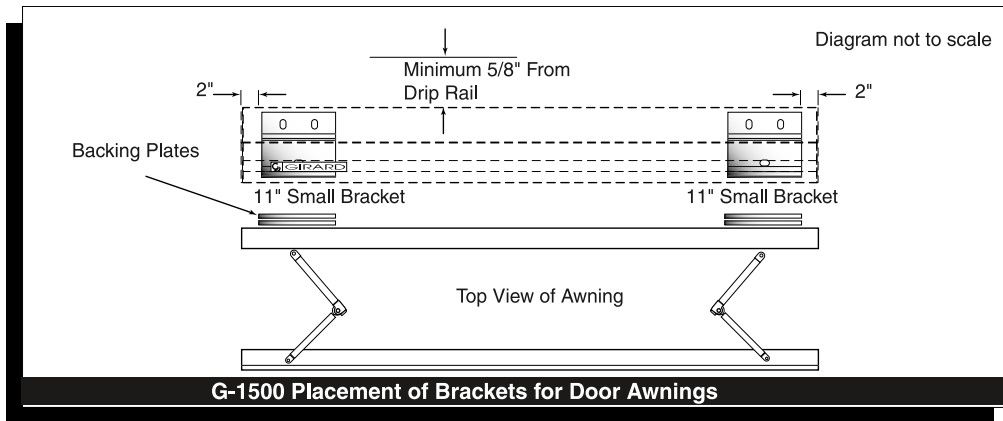

FIGURE 20
- b. parallel to vehicle body features, as high as possible on vehicle (not less than 5/8" from bottom of drip rail) so awning lip will clear (Fig. 19 or Fig. 20).